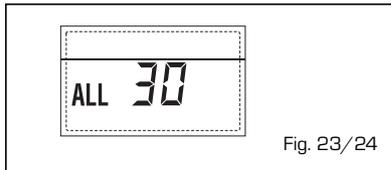

Fig. 23/24
- **ANOMALIA SONDA MANDATA CASCATA "ALL 31" (fig. 23/25)**